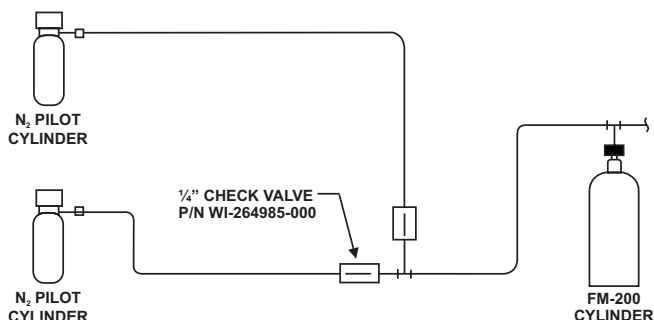

Figure 4-9. Multiple Pilot Nitrogen Actuation Cylinders
- 1/4" check valves (P/N 264985) shall be installed at the intersection of each pilot line to the main actuator line (see Figure 4-9).